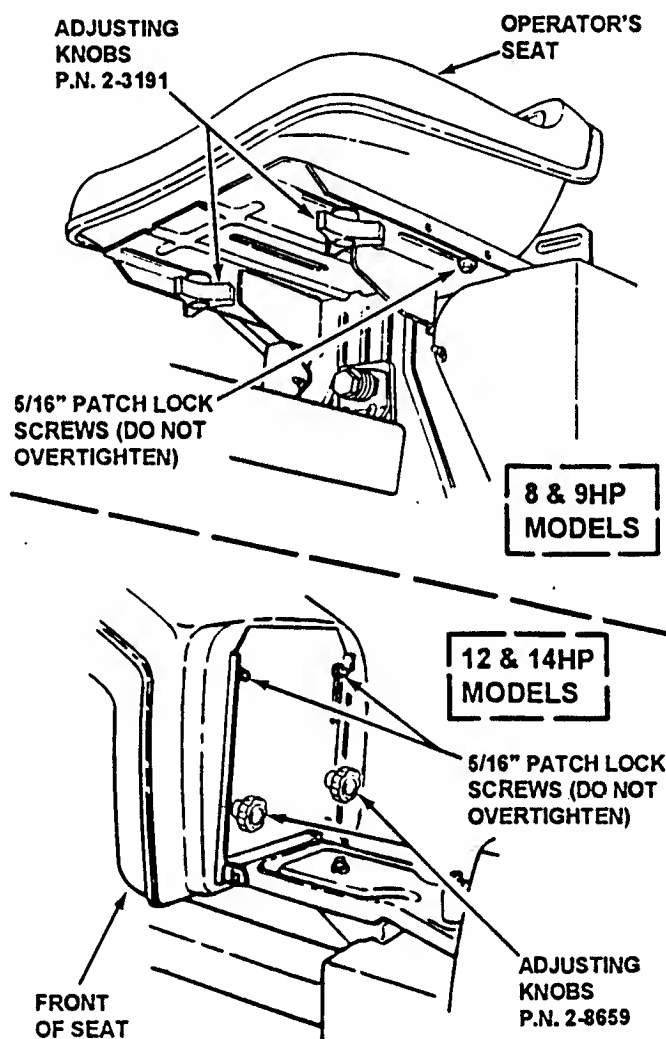

FIGURE 2.3
- 2.1.4. Adjust seat as needed to most comfortable position. See Figure 2.3.
1. With the engine stopped, loosen the two adjusting knobs and move seat to desired position. After adjustment, tighten knobs securely. If seat does not move after loosening knobs, it may be necessary to loosen the 5/16" patch lock screws located at the rear of the seat using a 1/2 inch wrench. On 12 and 14HP models, the operator's seat has a tilt-up design. The adjusting knobs need to be positioned as shown so as not to interfere with seat mounting plate when returned to sitting position. See Figure 2.3.